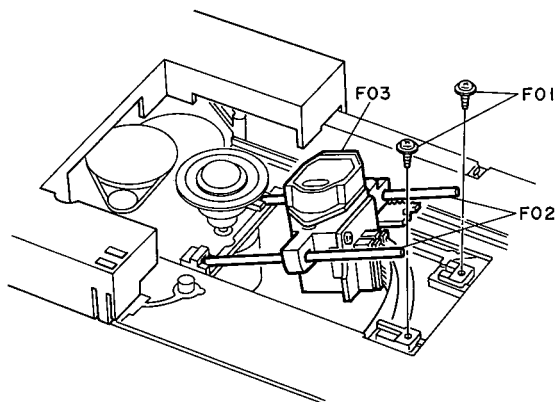
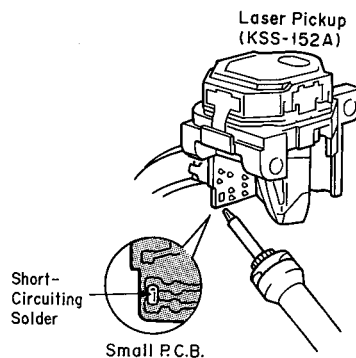

Fig. 2.9.1
Fig. 2.9.2
Refer to Figs. 2.9.1 to 2.9.5.
- (1) Turn the Power switch ON.
- (2) Press the Eject/Load button to eject the Disc Tray.
- (3) Turn the Power switch OFF.
- (4) Remove the Chuck Arm Ass'y referring to item 2.8.
- (5) Loosen screws F01 (2 pcs.) referring to Fig. 2.9.1.
- (6) Pull out F03 (Laser Pickup) along with F02 (Pickup Rail, 2 pcs.).
- (7) Apply short-circuiting solder to the Small P.C.B. of the Laser Pickup with a soldering iron whose metal part is grounded. See Fig. 2.9.2.
- (3) Remove the short-circuiting solder on the Small P.C.B. of the Laser Pickup with the soldering iron whose metal part is grounded. See Fig. 2.9.2.
- (4) Insert F02 (Pickup Rail, 2 pcs.) into F03 (Laser Pickup) and install them with screws F01 (2 pcs.). See Fig. 2.9.1.
- (5) Install the Chuck Arm Ass'y by reversing the steps in item 2.8.
- (6) Perform adjustments referring to "5.2. Electrical Adjustment Instructions".
- (7) Install the Top Cover.